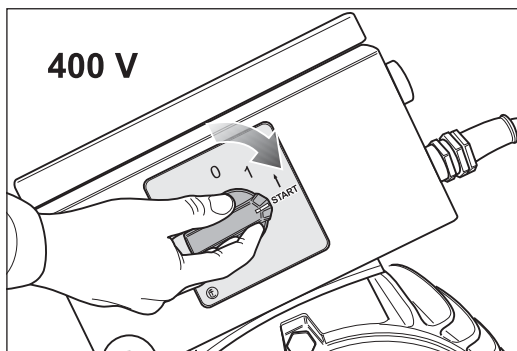
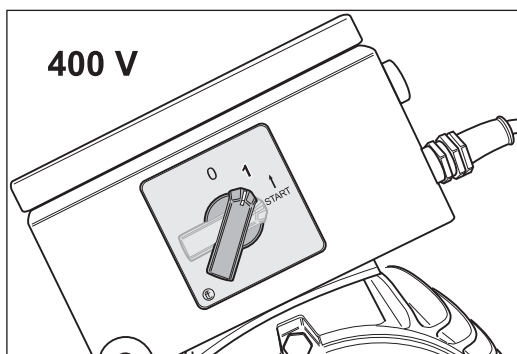

Fig. 25 To switch on the machine turn the switch button at the motor to position -START-.
Fig. 26 Release the switch button. The button turns automatically in position -1-.
- 2 To switch on the machine turn the switch button at the motor to position -START- (fig. 25) and release the switch button after the motor has reached its full speed. The switch button will then automatically move to position -1- (fig. 26).